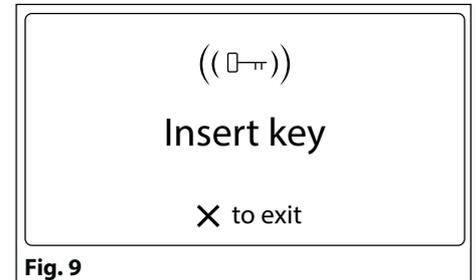

Fig. 9
- press "3" to add a key: the display will show "INSERT KEY" as shown in Fig. 9